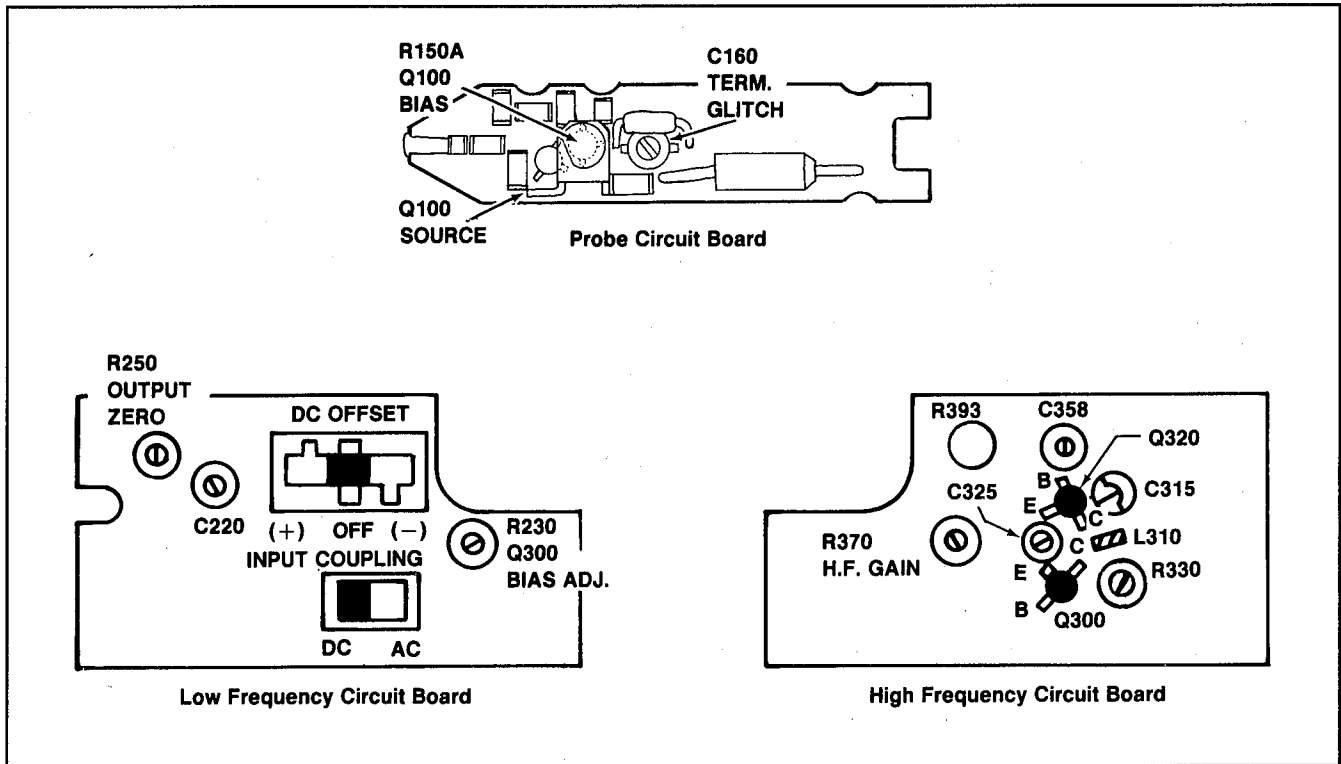

Fig. 5-1. Circuit board adjustment and test point locations.
d. Connect the DMM (Item 7) leads between the source of Q100 (Fig. 5-1) and ground.
j. ADJUST—Output Zero, R250 (Fig. 5-1) to return the oscilloscope trace to the graticule center.
k. Connect the DMM leads between the base of Q300 (Fig. 5-1) and ground.
m. ADJUST—Bias Adj., R230 (Fig. 5-1) for a reading of -3.3 V .
e. ADJUST—See Table 5-2 and Fig. 5-1 for adjustments. Adjust for optimum transient response and risetime. (For P6201's below serial number B076840: If probe components are replaced, R185 may have to be changed; a lower value will raise the front corner of the square wave and a higher value will lower it. R185 is located on the Probe Circuit Board. Refer to Section 4, Maintenance, for access instructions.)